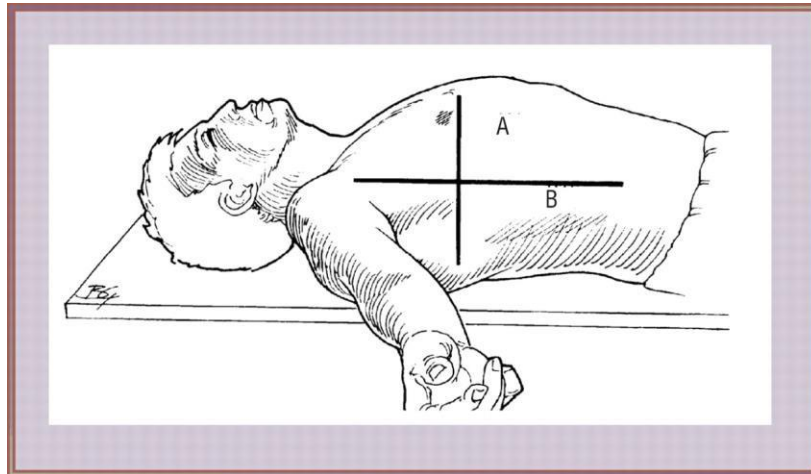

Figure 5
- When the transducer is secured to a transducer mount at the end of the patients' bed, the transducer must be zeroed at the level of the phlebostatic axis. This site is at the intersection of the fourth intercostal space and mid axillary line (See Figure 5.).